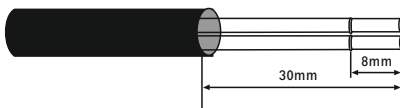

Figure 5.23
1. Use a wire stripper to peel off the insulation layer of the communication cables to certain length as shown in figure 5.23.